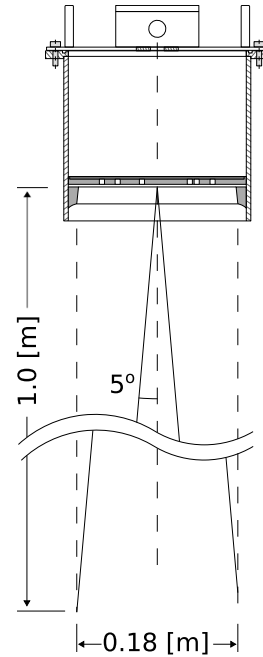

Figure 1.1: The 5° [deg] half top angle of the F08 antenna beam.
- It is advised to choose a mounting position such that the WaveGuide radar beam is free of large reflecting obstacles (the beam of the F08 antenna can be approximated to a conical shape having a 5° [deg] half top angle as shown in Fig. 1.1). The minimum horizontal distance between the radar and any obstacle in the beam's path should be at least 10% of the vertical distance between the radar and the obstacle. This does not only include horizontal objects in the beam's path but also vertical structures.